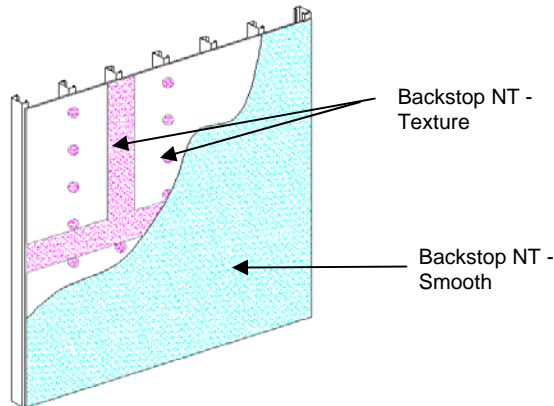

Figure 18
- a. General: Dryvit Backstop NT - Smooth can be applied using a roller or sprayed and back-rolled over the acceptable sheathing substrates. **NOTE: OSB sheathing requires that joint and fasteners be treated with Backstop NT – Texture. A minimum of two (2) coats of Backstop NT – Smooth are required for the field of the wall. Backstop NT – Texture is not recommended for application in the field of the board.**
- 2) Backstop NT - Smooth material should be applied in a uniform, continuous film at the recommended coverage rate – Figure 18. **NOTE: Sheathing substrates with a surface texture or high porosity will require additional material.**